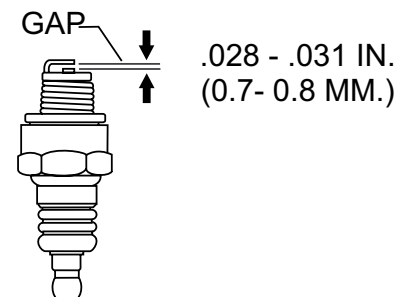

Figure 31. Spark Plug Gap
1. Remove and clean spark plug (Figure 31) with a wire brush if it is to be reused. Discard spark plug if the insulator is cracked or chipped.